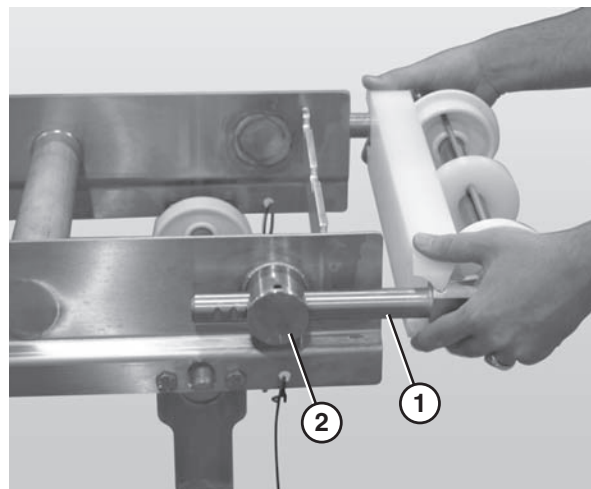

Figure 73
2. Slide the idler tail assembly (**Figure 73, item 1**) out of the take up blocks (**Figure 73, item 2**).